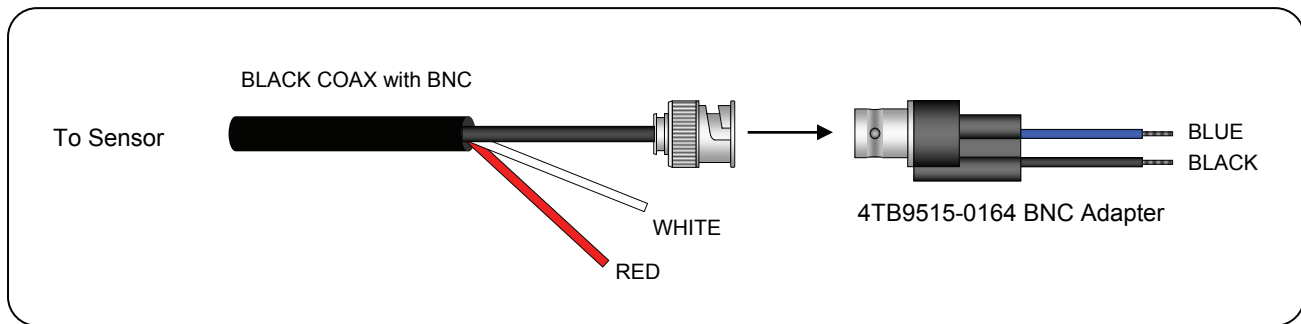

Figure 9 - TB5 BNC cable & BNC adapter
1. BNC adapter required on sensors provided with BNC termination (See **Figure 9**).